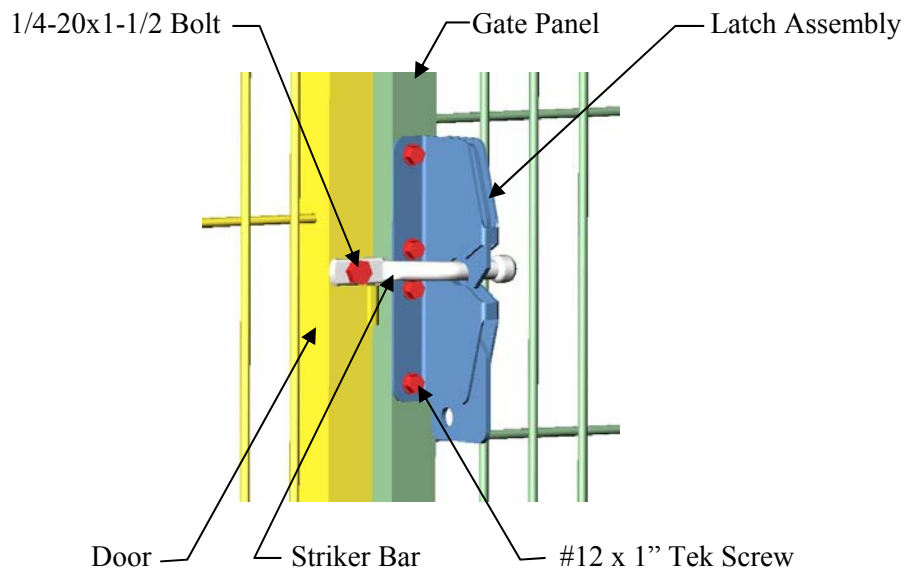

Figure 52
1. Install the Striker Bar to the pre-drilled Door using a 1/4"-20 x 1-1/2 Hex Bolt and 1/4"-20 Nylox Nut (**Figure 52**). Position the Striker bar into a horizontal position.
2. Hold the Latch Assembly in place against the Gate Panel and close the Door. Make sure to center the Striker Bar within the latch pocket and latch looks straight. Using (4) 1" Tek Screws, mount the Latch Assembly to the Gate Panel (**Figure 52 & 52A**).